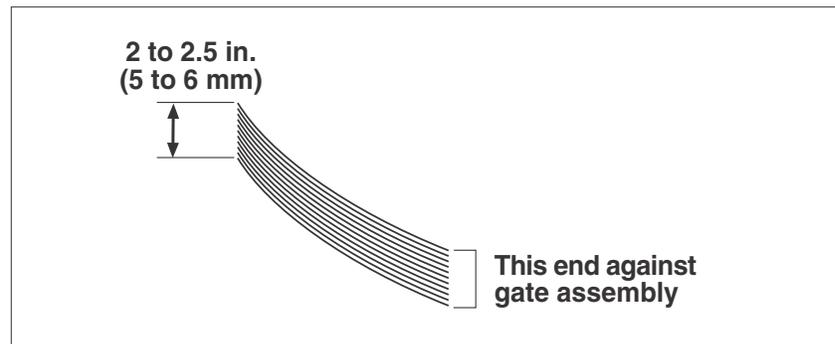

Figure 2-9. Preshingling a Small Stack of Material By Hand
1. Grasp a handful of material, approximately 2 to 2.5 in. (5 to 6 cm) thick, and preshingle the edges with your thumb (Figure 2-9).